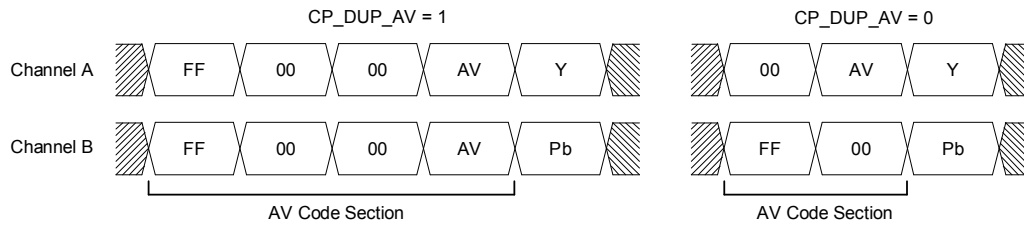

Figure 19: AV Code Output Options (CP)
- The AV codes can be output on all channels or spread across the Y and PrPb buses for 20-bit output modes (refer to Figure 19).
0	Spreads AV code over channel A and channel B (refer to Figure 19)
1 	Outputs AV code on channel A and duplicate on channel B (refer to Figure 19)